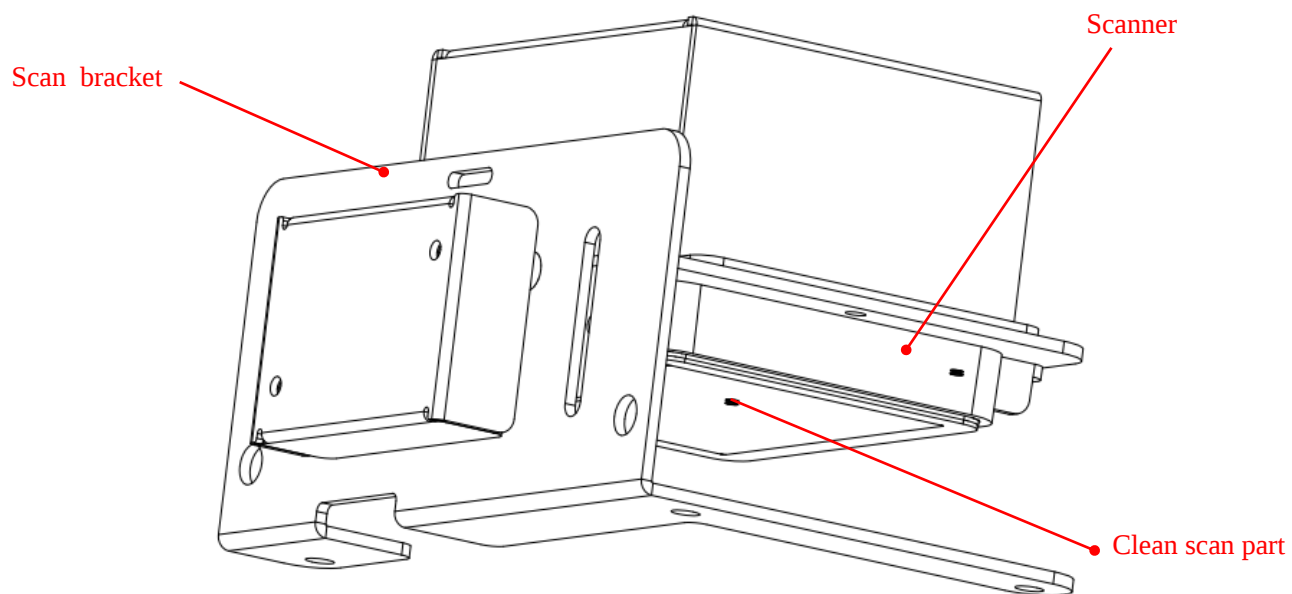

Figure 7 Cleaning of the scanning head
- ① Roller maintenance. Recommend maintenance once every 3,000 dispense
② Scanner maintenance. Use brush to clean the dust on scan head as the following figure. (See Figure 7)